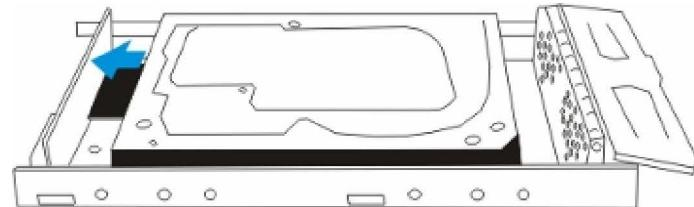

Figure 2-3: Connecting the Drive to MUX Kit
Step 3. *Connect the drive to the MUX kit* by sliding it towards the rear of the drive tray until a solid connection between the drive connector and the MUX kit connector has been made. (See *Figure 2-3*)